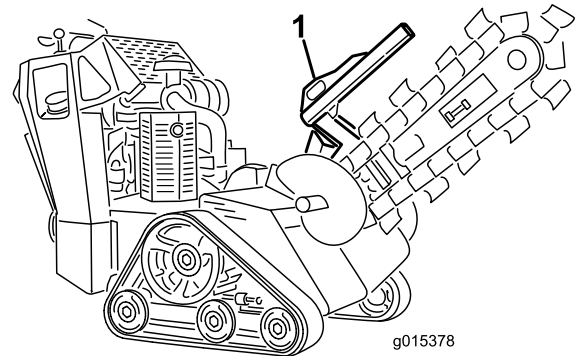
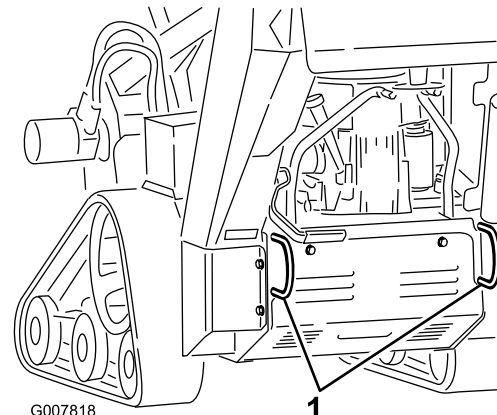

Figure 19
Figure 20
3. Secure the machine to a trailer with chains or straps using the tie-down/lift loops at the front and rear of the machine (Figure 19 and Figure 20). Refer to your local ordinances for trailer and tie-down requirements.
You can lift the machine using the tie-down/lift loops as lift points (Figure 19 and Figure 20).